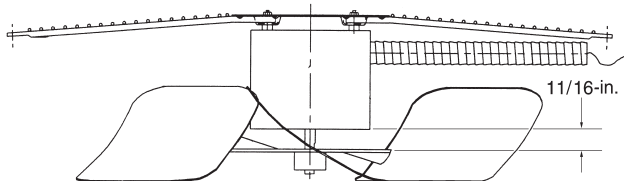

Fig. 31 – Condenser-Fan Adjustment
Condenser-Fan Adjustment (See Fig. 31.)
3. Adjust fan height as shown in Fig. 31.